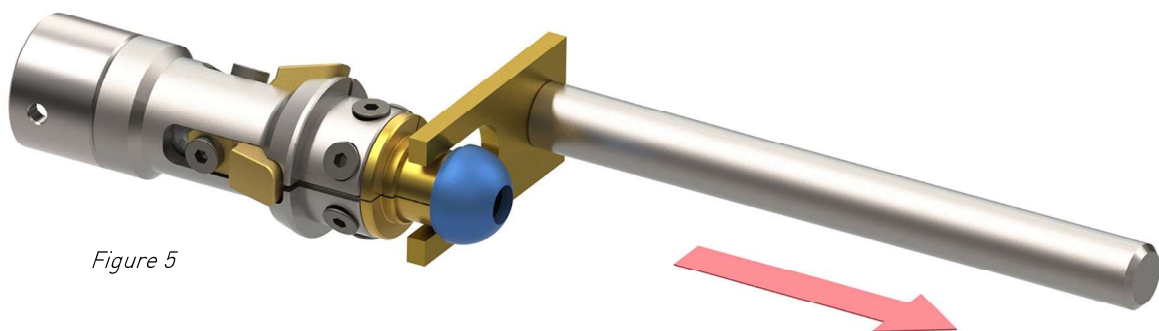

Figure 5
- 2) Adjust the angular position of the insert so that it can be inserted behind the work piece to be ejected (*see figure 5*)